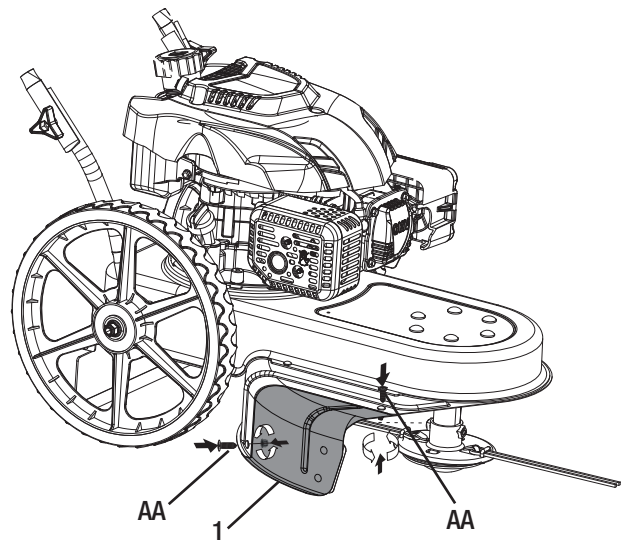

Figure 1-5
- Insert the bolt (AA) into the hole and fasten it with a wrench tool. See Figure 1-5.